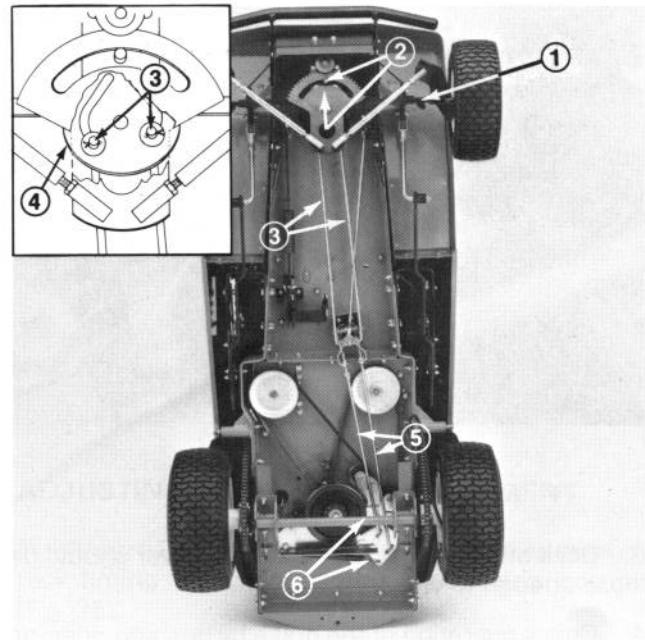

Figure 31
1. Assure Front Axle is level with frame and steering rack timing mark is centered on steering stop pin (Fig. 31).
2. Check to make sure ends of front pull rods are positioned at the rear of the slots in the pull rod plate (Fig. 31 inset).
3. Adjust jam nuts on rear pull rods so the bent ends of the rods are on center to 1/8" behind the center of the slots in the traction pivot plates (Fig. 31 & 32).